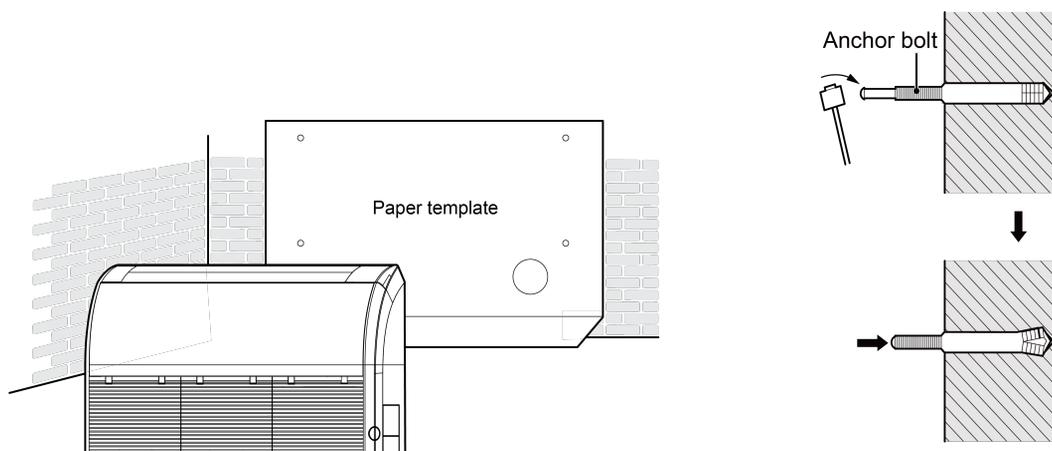

Fig.4.1.2.1
- (1) Determine the location of the hanger through the paper template, and then remove the paper template, as shown in Fig.4.1.2.1 left.
- (2) Insert the anchor bolts into the drilled holes, and drive the pins completely into the anchor bolts with a hammer, as shown in Fig.4.1.2.1 right.
- (3) Remove the right and left side panels, as shown in Fig.4.1.2.2.